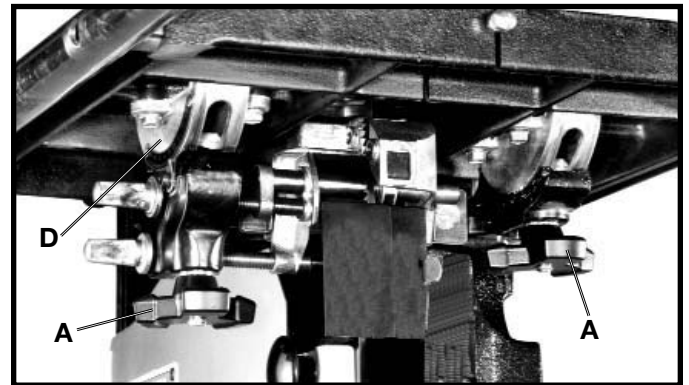
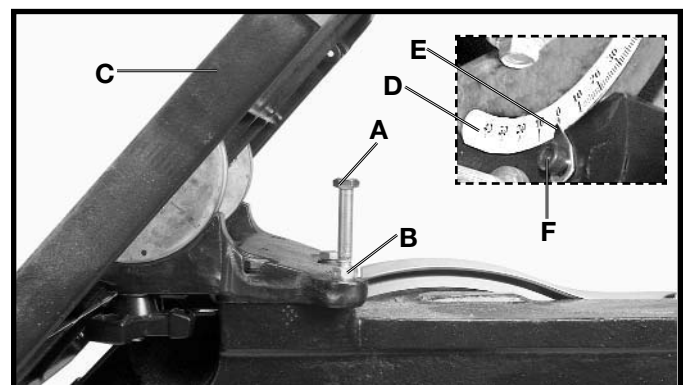
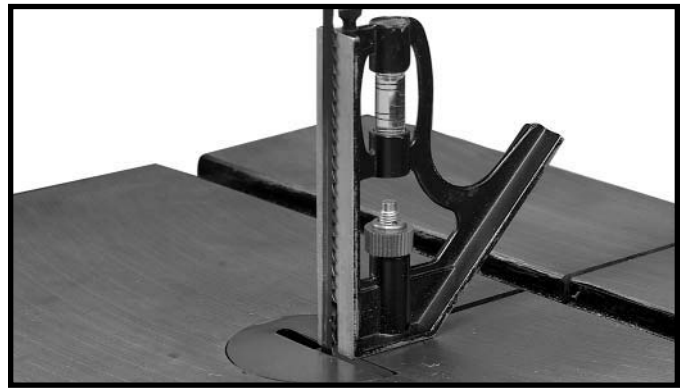

Fig. 25
Fig. 26
Fig. 27
1. The table on the band saw can be tilted 45 degrees to the right and 10 degrees to the left. To tilt the table to the right, loosen the two locking knobs (A) Fig. 25, tilt the table to the desired angle as shown on the scale (D) Figs. 25 and 26, and tighten two locking knobs (A).
2. To tilt the table (C) Fig. 26 to the left, loosen the two locking knobs (A) Fig. 25, and tilt the table to the right until access to the table stop (A) Fig. 26 is gained. Remove the table stop (A) Fig. 26, and tilt the table to the left 10 degrees. Tighten the two locking knobs (A) Fig. 25.
The tool is equipped with an adjustable table stop (A) Fig. 26 that allows the table to be set at 90 degrees to the blade.
Tilt the table (C) Fig. 26 to the left until the table stop (A) Fig. 26 contacts the table. Place a square on the table against the blade (Fig. 27). Check to see if the blade is 90 degrees to the table surface. If not, then do the following:
2. Loosen the locknut (B) Fig. 26 to free the adjusting screw (A) Fig. 26. Turn the adjusting screw (A) right or left to raise or lower the table stop, then tighten the locknut (B).
3. Lower the table. Check to see that the table is 90 degrees to the blade (Fig. 27).
4. When the table is 90 degrees to the blade, check the pointer (E) Fig. 26 to see if it points to 0°. If not, loosen the screw (F) Fig. 26 and move the pointer to 0°. Tighten the screw.